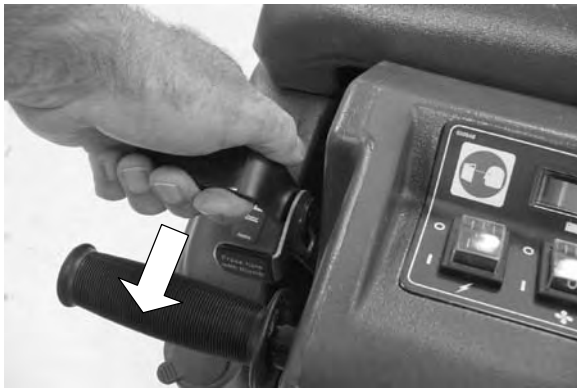

FIG. 4
2. Pull back on squeegee lift lever to raise squeegee mount bracket (Figure 4).